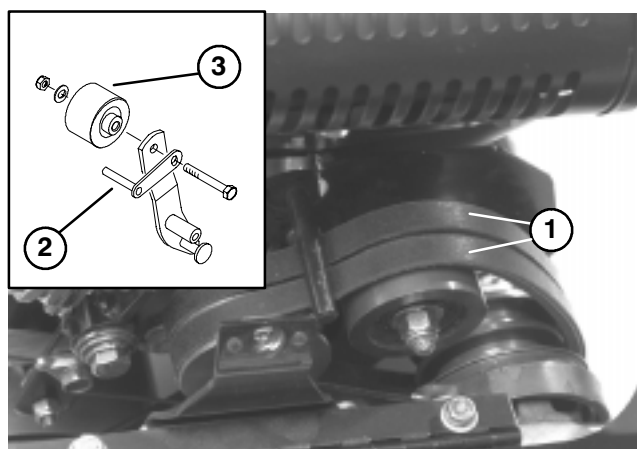

Figure 39
6. To push or pull machine easier without starting the engine, adjust the belt guide (Fig. 39, inset) as follows: